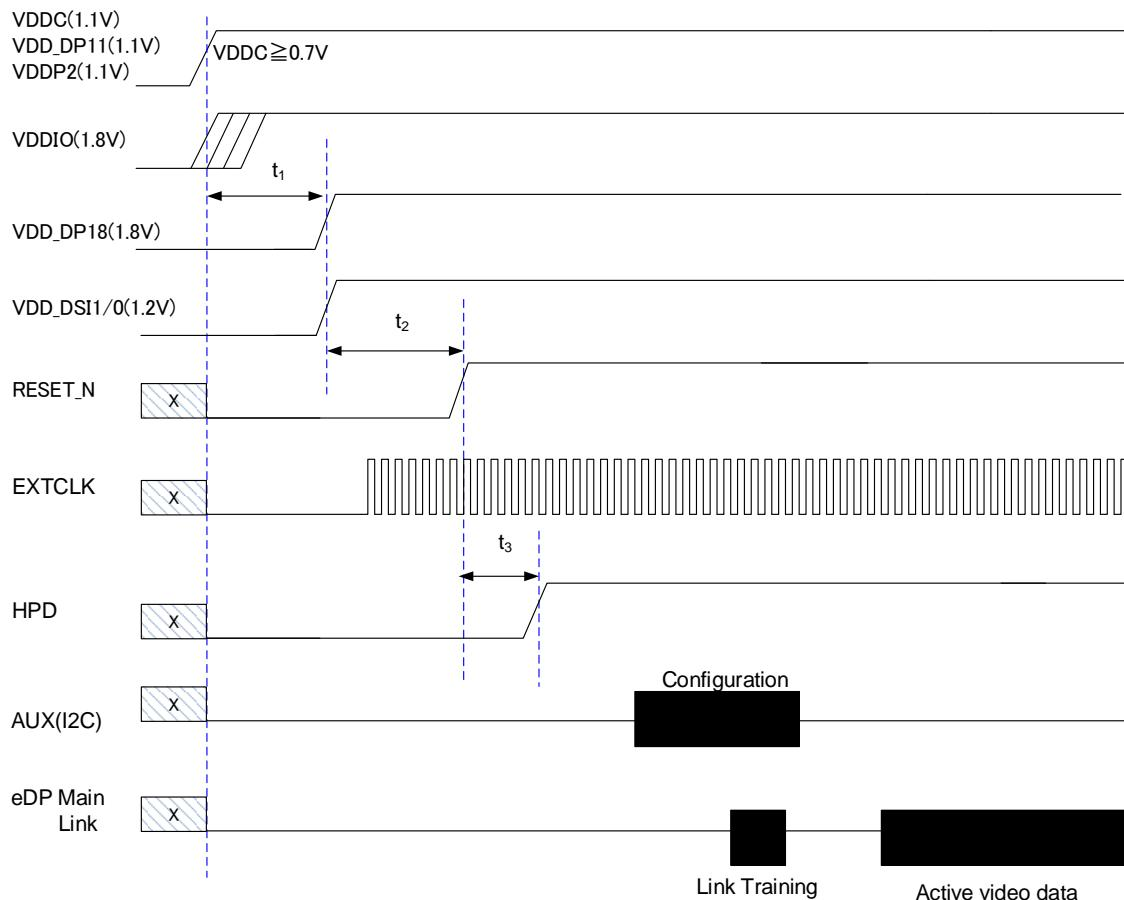

Figure 5-1 Power on Sequence
7. The timing parameters for Figure 5-1 are tabulated in Table 5.1.